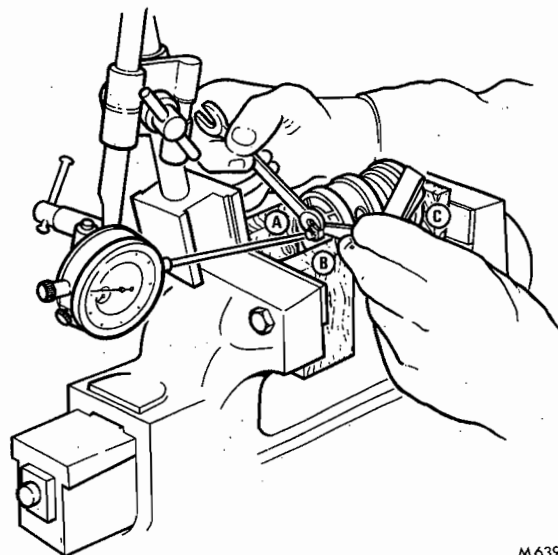

FIG. 2 ADJUSTING INLET/EXHAUST VALVE CLEARANCE
9. Adjust the inlet/exhaust valve clearance (see Fig. 2) as follows: